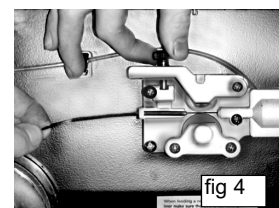

fig 4
3. 4. 1. For 0.6mm wire in mild steel the wire lock screw must be tightened fully and undone approximately two complete turns (fig 4).